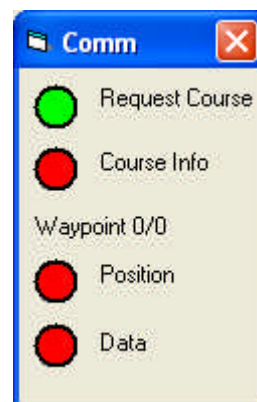

Figure 30. Comm message box
- A *Comm* message box will popup, Figure 30, showing the progress of the flight plan being uploaded.